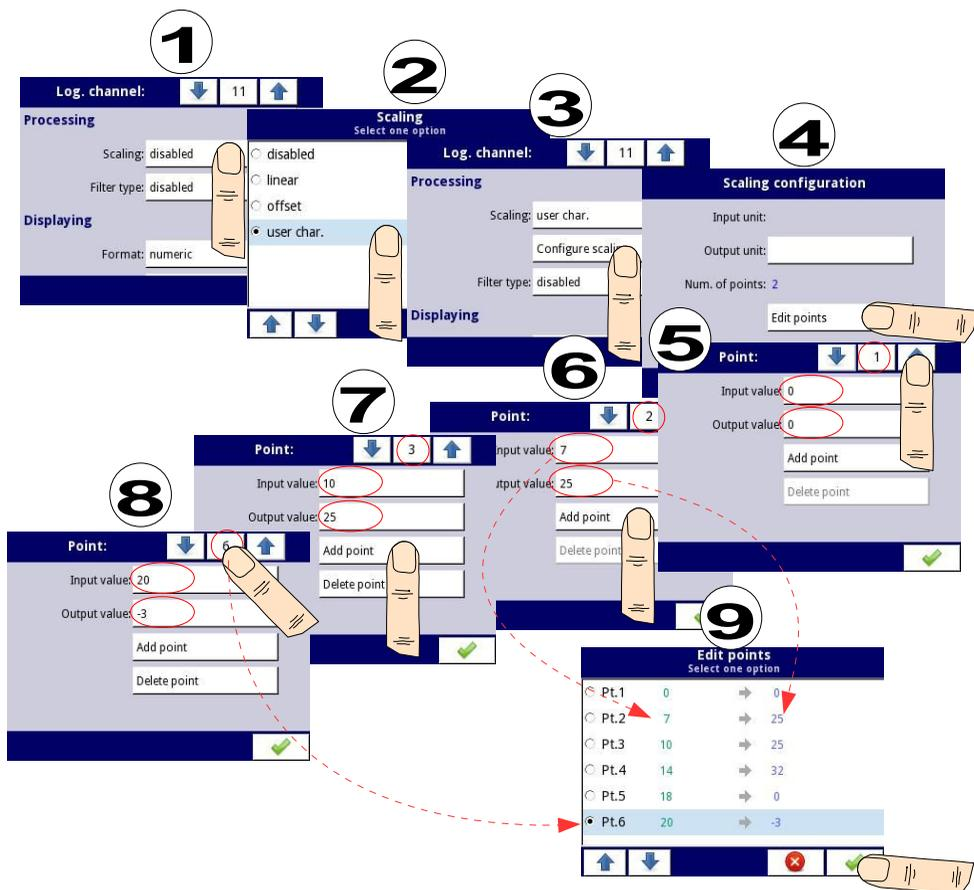

Fig. 7.36. Configuring the user characteristic
1. Press the button next to the **Scaling** label and select the **user characteristic** option (point (1) and (2) in Fig. 7.36).
2. Press the **Configure scaling** button and enter the **Scaling configuration** menu (point (3) in Fig. 7.36).
4. Press the **Edit points** button (point (4) in Fig. 7.36) and go to the **Edit points** menu.
For **Point 1** set input and output value (point (5) in Fig. 7.36).
5. Switch to **Point 2** by using the arrow keys and also set the value of input and output there (point (6) in Fig. 7.36).
8. At the end we check all the points defined by clicking the middle button between the arrows in the upper right corner of the screen (point (8) and (9) in Fig. 7.36).